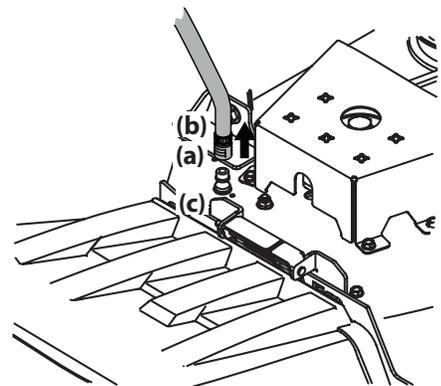

Figure 4-3
- Pull back the lock collar (a) of the nozzle adapter (b) and push the nozzle adapter (b) onto one of the deck wash nozzles (c) at either end of the tractor deck. Release the lock collar (a) to lock the nozzle adapter (b) on the deck wash nozzle (c). See Figure 4-3.